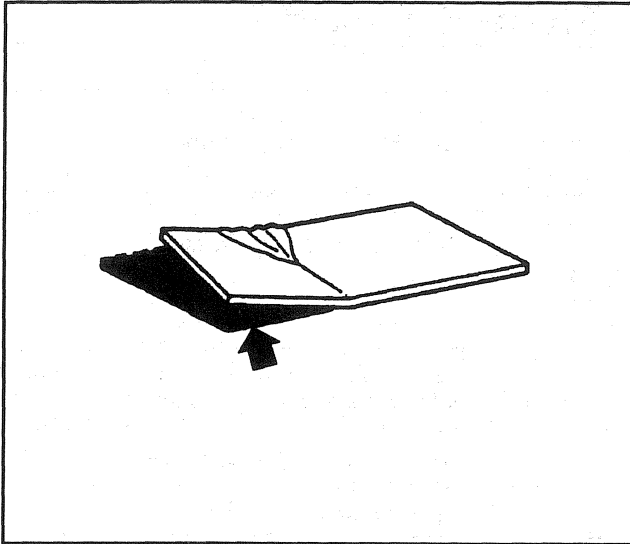

Figure 4—Sidesway (Damage Condition)
7. **SIDESWAY** refers to a section of the frame that is positioned to the left or right of centerline, when compared to the rest of vehicle (Figure 4).